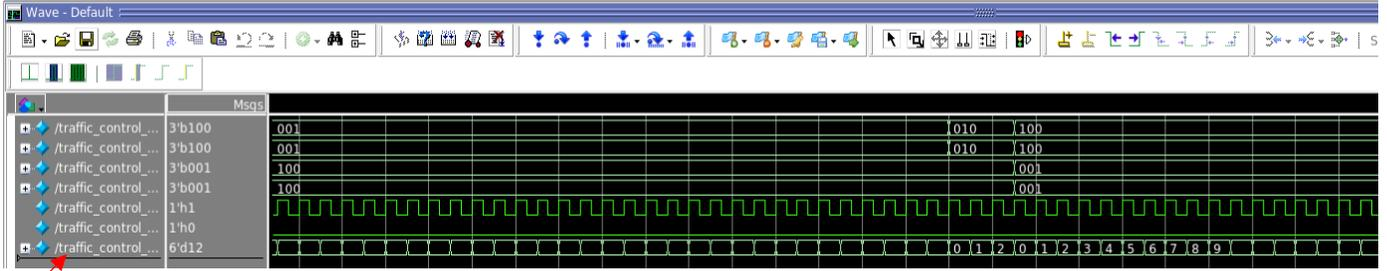

Figure 6: Traffic Control simulation (RTL)
5. Zoom in to obtain the view shown in Figure 6. This will give a better view of the output values at a given point in the simulation.